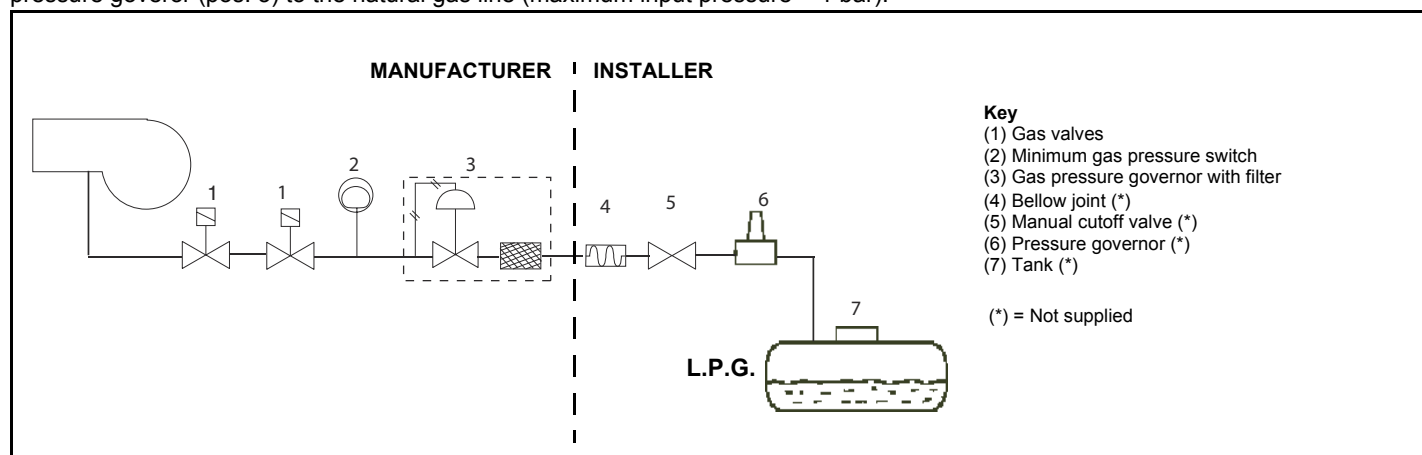

Fig. 4
**DANGER!** Incorrect motor rotation can seriously damage property and injure people. **ATTENTION:** once the gas train is mounted according to the diagram on Fig. 4, the gas proving test must be performed, according to the procedure set by the laws in force.